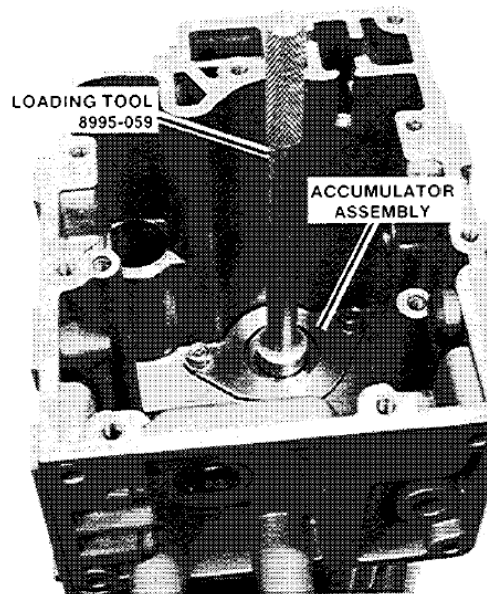

Figure 5-8. Accumulator Removal
11. Screw spring loader 8995-059 into accumulator piston (78) to compress accumulator spring (77). Remove two screws (75) from spring seat (76). Remove the accumulator assembly (Figure 5-8).